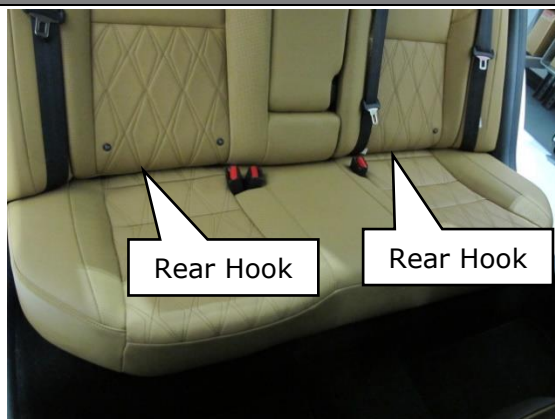

Figure 6
- Unlatch the rear hooks at the rear of the seat cushion by pushing the seat cushion toward the rear of vehicle and pulling up (Refer to Figure 6)